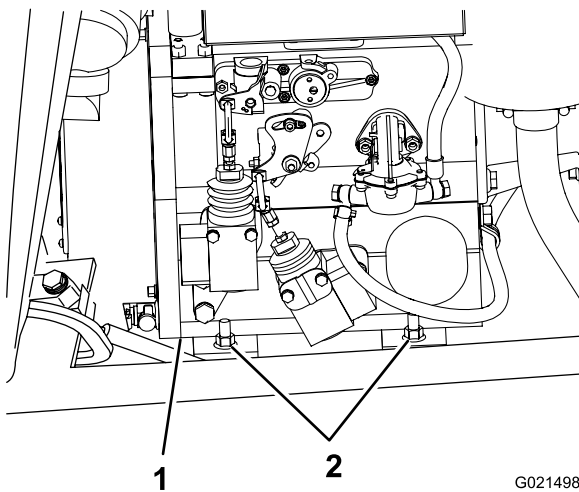
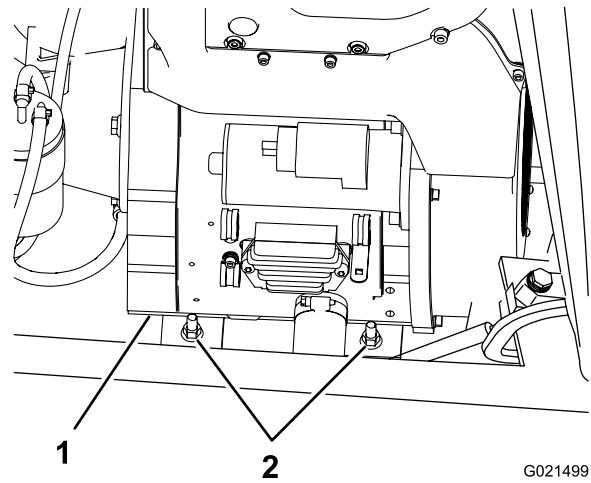

Figure 62
Figure 63
- Tighten the 4 nuts and 4 bolts that secure the engine to the upper frame to 68 N-m (50 lb-ft); refer to Figure 62 and Figure 63.